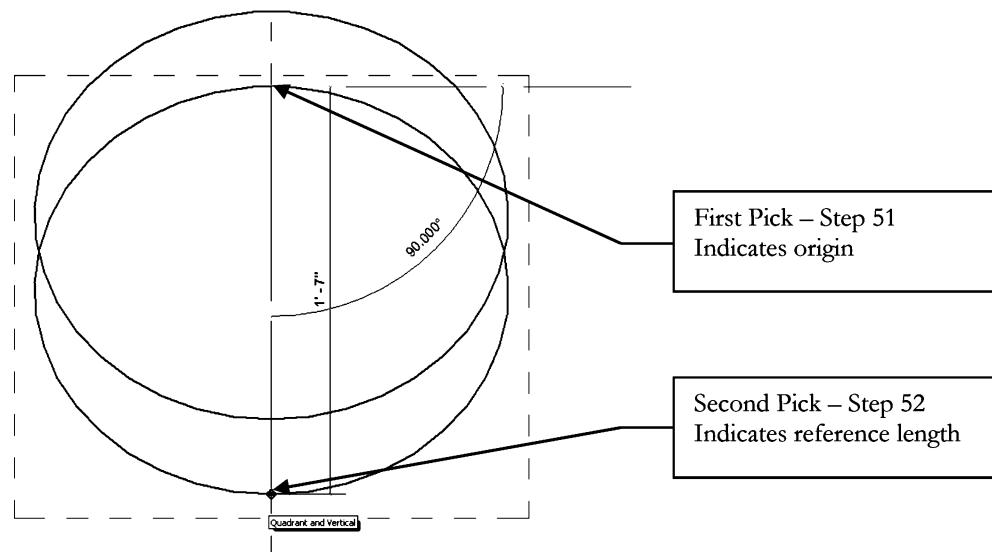

FIGURE 4-2.14 Scaling the ellipse
51. *First Pick:* Pick the top edge, midpoint, of the selected ellipse (Figure 4-2.14).
52. *Second Pick:* Pick the bottom edge, midpoint, of the same ellipse (Figure 4-2.14).